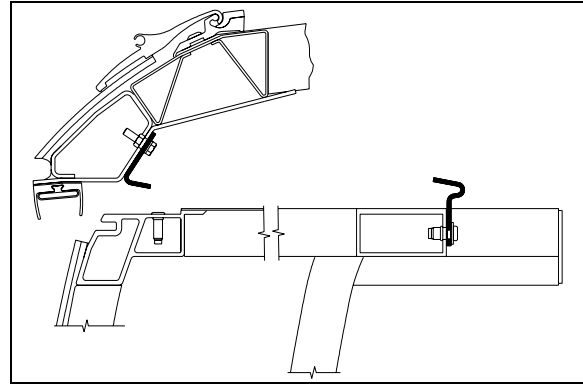

FIGURE 32: SLIDE-OUT 2" INSIDE – UPPER PART
5. Using the manual override procedure, move the slide-out 2" inside the vehicle, so the seal is accessible from outside (FIGURE 32).
6. Once completed, use the manual override procedure to extend the slide-out to reinstall the exterior extrusion. Apply appropriate sealant on the exterior extrusion screws and between the extrusion, the roof and the edges to prevent water infiltration (FIGURE 32).